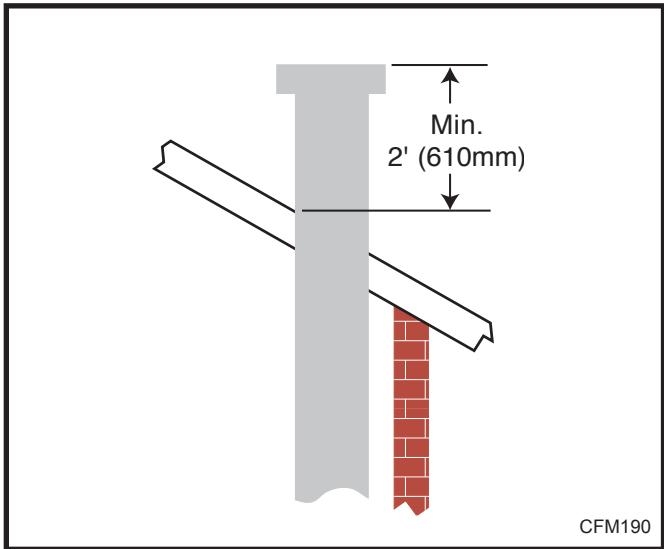

Fig. 39 Minimum termination to roof clearance.
- The minimum height of the vent above the highest point of penetration through the roof is 2' (610 mm). (Fig. 39)
- Add additional vent lengths for proper height. (Fig. 39)